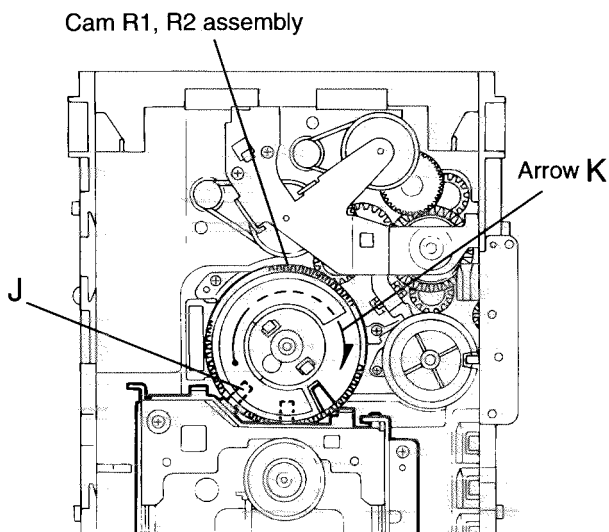

Fig.11
■ Removing the CD traverse mechanism (See Fig.11 and 12)
1. For dismantling only the CD traverse mechanism without removing the CD loading mechanism assembly, align the shaft "J" of the CD loading mechanism assembly to the position shown Fig.11 while turning the cam R1 and R2 assembly in the arrow direction "K" .